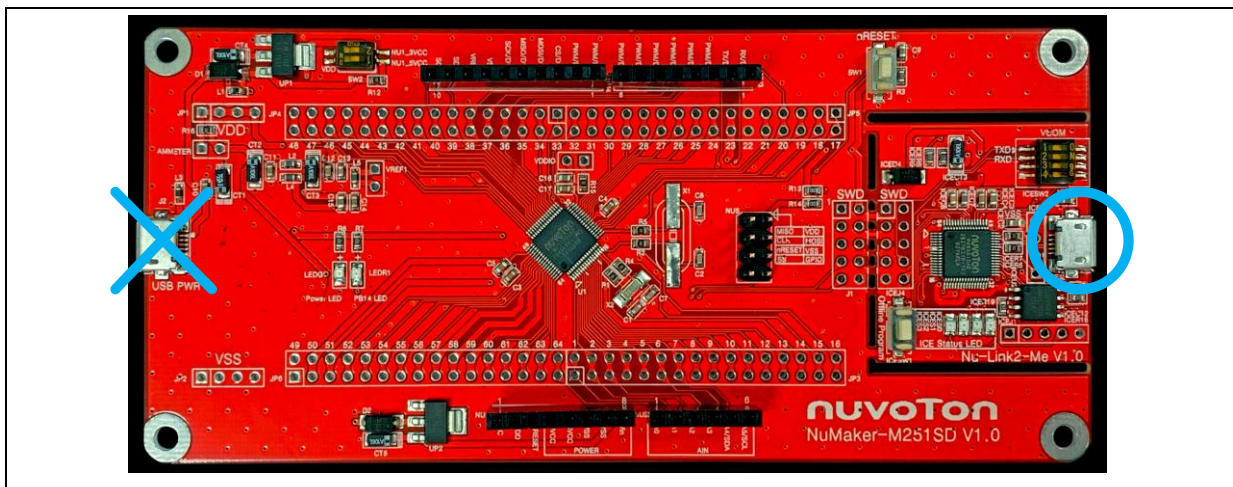

Figure 3-12 ICE USB Connector
2. Connect the ICE USB connector shown in Figure 3-12 to the PC USB port through USB cable.